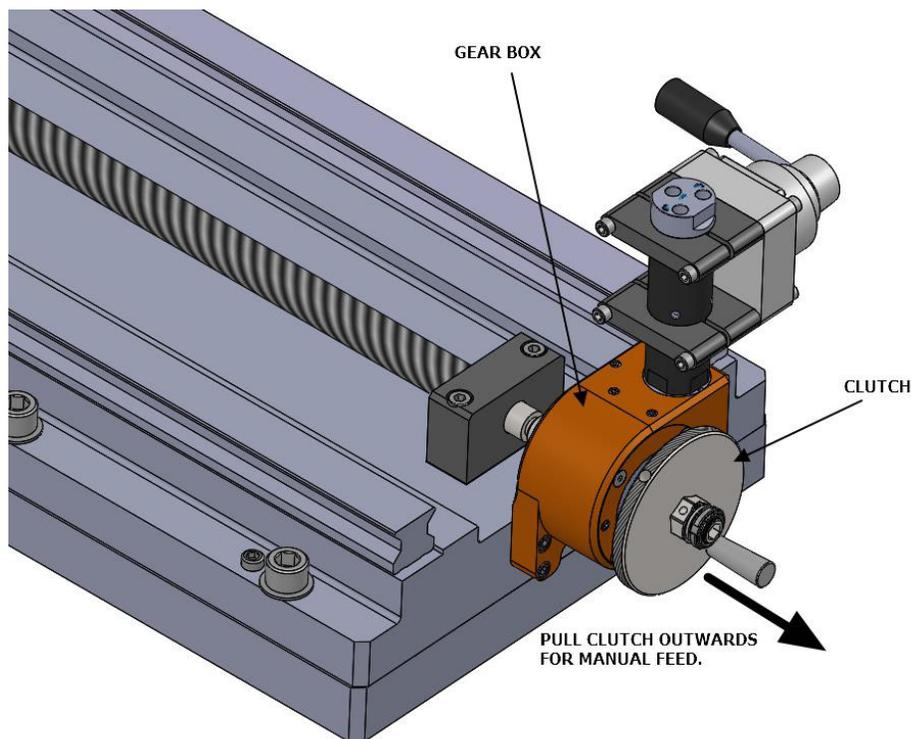

FIGURE 6
6. To feed the X-Axis manually, loosen both X-RAIL-CLAMPS (Figure 5) and pull the CLUTCH outwards to disengage from the GEAR-BOX (Figure 6).